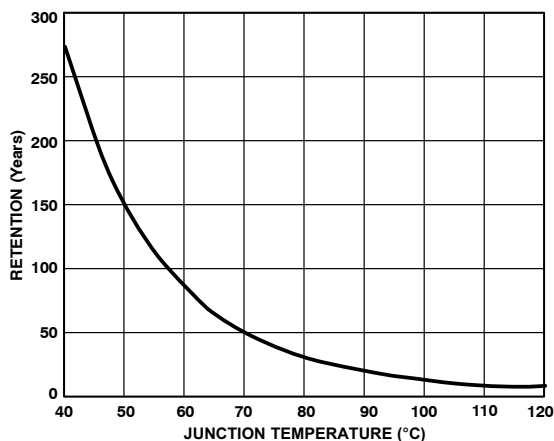

Figure 15. Typical EEPROM Memory Retention
- Retention lifetime equivalent at junction temperature ( $T_J$ ) =  $55^\circ C$  as per JEDEC Std. 22 method A117. Retention lifetime based on activation energy of 0.6 eV derates with junction temperature as shown in Figure 15.
Retention quantifies the ability of the memory to retain its programmed data over time. The EEPROM in the ADM1026 has been qualified in accordance with the formal JEDEC Retention Lifetime Specification (A117) at a specific junction temperature ( $T_J = 55^\circ\text{C}$ ) to guarantee a minimum of 10 years retention time. As part of this qualification procedure, the EEPROM memory is cycled to its specified endurance limit described above before data retention is characterized. This means that the EEPROM memory is guaranteed to retain its data for its full specified retention lifetime every time the EEPROM is reprogrammed. Note that retention lifetime based on an activation energy of 0.6 V derates with  $T_J$ , as shown in Figure 15.